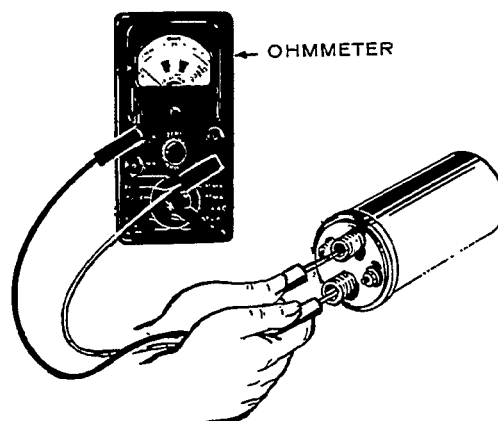

FIGURE 30. COIL TEST
3. Change resistance setting on ohmmeter. Place ohmmeter leads inside of spark plug cable holes (Figure 30). Secondary resistance should read 12,600-15,400 ohms.